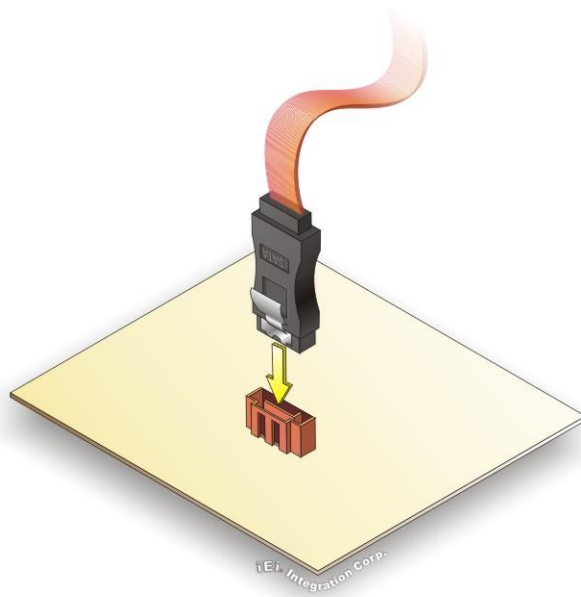

Figure 4-6: SATA Drive Cable Connection
Step 2: Insert the cable connector. Insert the cable connector into the on-board SATA drive connector until it clips into place. See **Figure 4-6**.